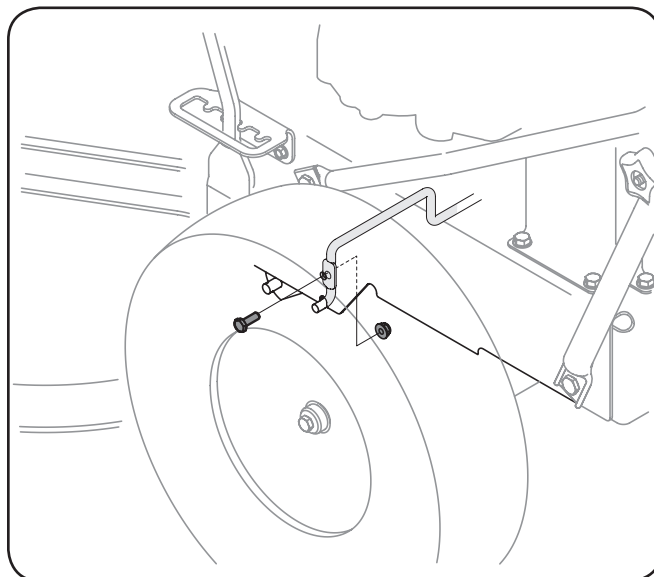

Figure 7-2
5. Remove the screw and flange nut which secures the belt keeper rod to the left side of the mower's frame. See Figure 7-2.
3. Remove the belt keeper as instructed earlier in this section. See Figure 7-2.